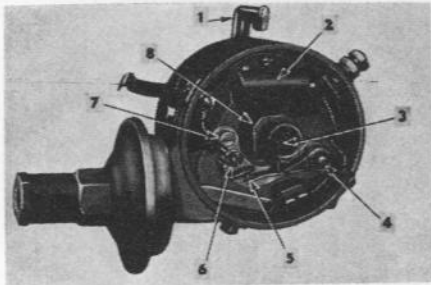

FIG. 49—DISTRIBUTOR
2. Check the timing. The timing must be correct and in order to do this the fan belt must be removed and the fan blades removed. If not correctly aligned, bend the distributor mount bracket slightly to provide alignment. Adjust the points to provide 210° of advance gap. This is accomplished by turning lock screw. Fig. 49, 50, 51 and timing adjusting procedure. No. 1 distributor advance mechanism. Be sure that the first block on the distributor is facing against the contact when the camshaft is adjusted to zero and check the gap when looking the adjustment. Check the advance ground and lead connections.
4. Check the distributor. Remove the cap to clean it thoroughly and inspect it for cracks and carbon runners. Check the shaft for excessive side play. If more than .005" (.127 mm.), it will be necessary to install new bushings. Check the distributor point spring tension which must be between 17 and 20 ounces. Be sure that the distributor points are clean and make full, square contact. If not correctly aligned, bend the stationary contact bracket slightly to provide alignment. Adjust the points to provide .020" (.508 mm.) gap. This is accomplished by loosening lock screw, Fig. 49, No. 6, and turning adjusting eccentric screw, No. 7, until correct clearance is secured. Be sure that the fiber block on the breaker arm is resting against the highest point on the cam when the adjustment is made and recheck the gap after locking the adjustment. Check the condenser ground and lead connections.